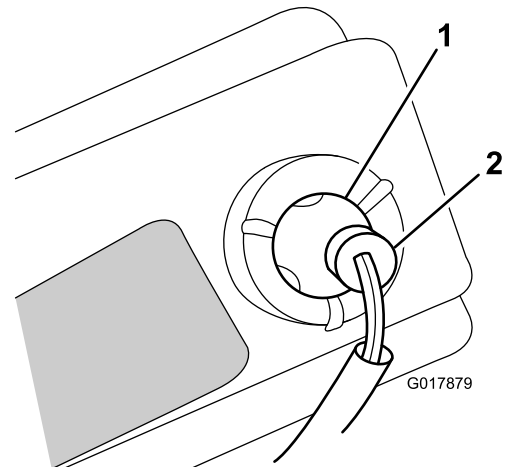

Figure 30
6. Pull out the bulb socket (Figure 30).